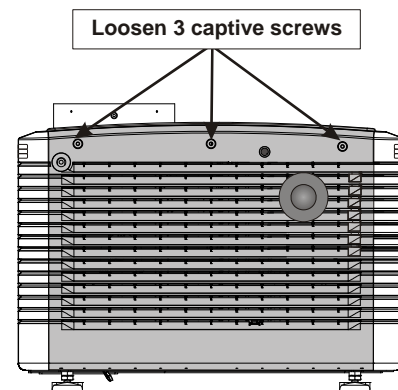

Figure 5-5 Remove Back Cover
1. Using a #2 Phillips™, loosen the three captive screws securing the back cover to the chassis (**Figure 5-5**).